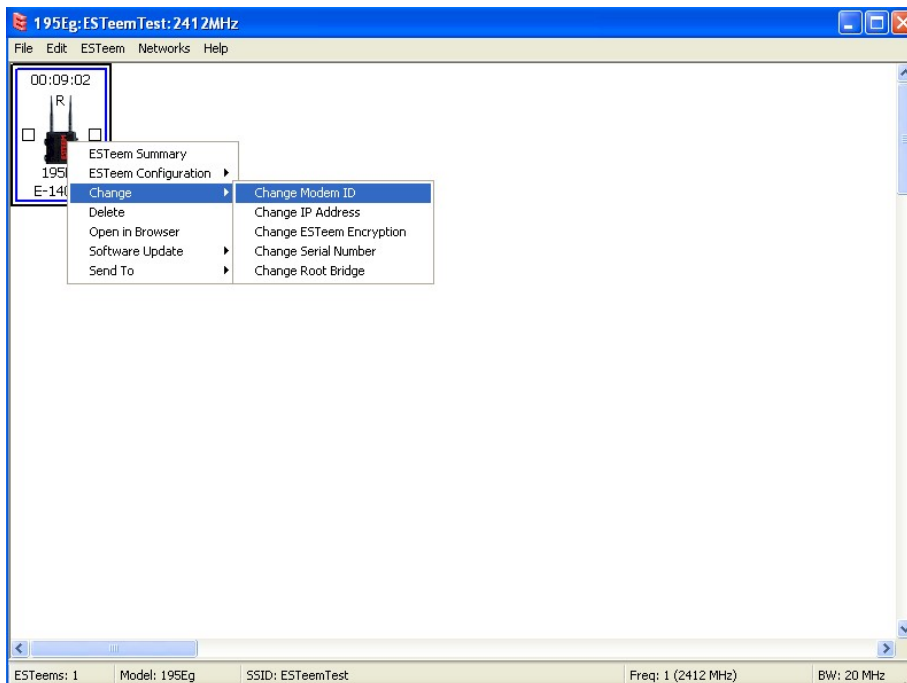

Figure 12: Change Modem ID
3. To change the name of the ESTeem 195C/M from the WLAN MAC address to “Main Office” (or any other location name) to match the example configuration, Right-Mouse click on the ESTeem icon and select Change>Change Modem ID (Figure 12). Enter “Main Office” in the pop-up window and select OK.